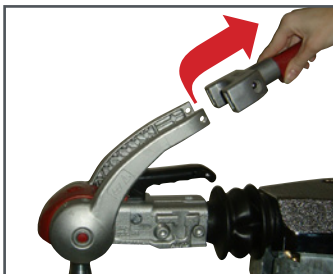

Fig 3 Slide handle off the stabiliser arms
- 1 With the 4x4 handle in place, raise the stabiliser lever arms to 45° and remove the handle from the stabiliser (Fig 3).
- 3 Remove the 4x4 handle (Fig 3).